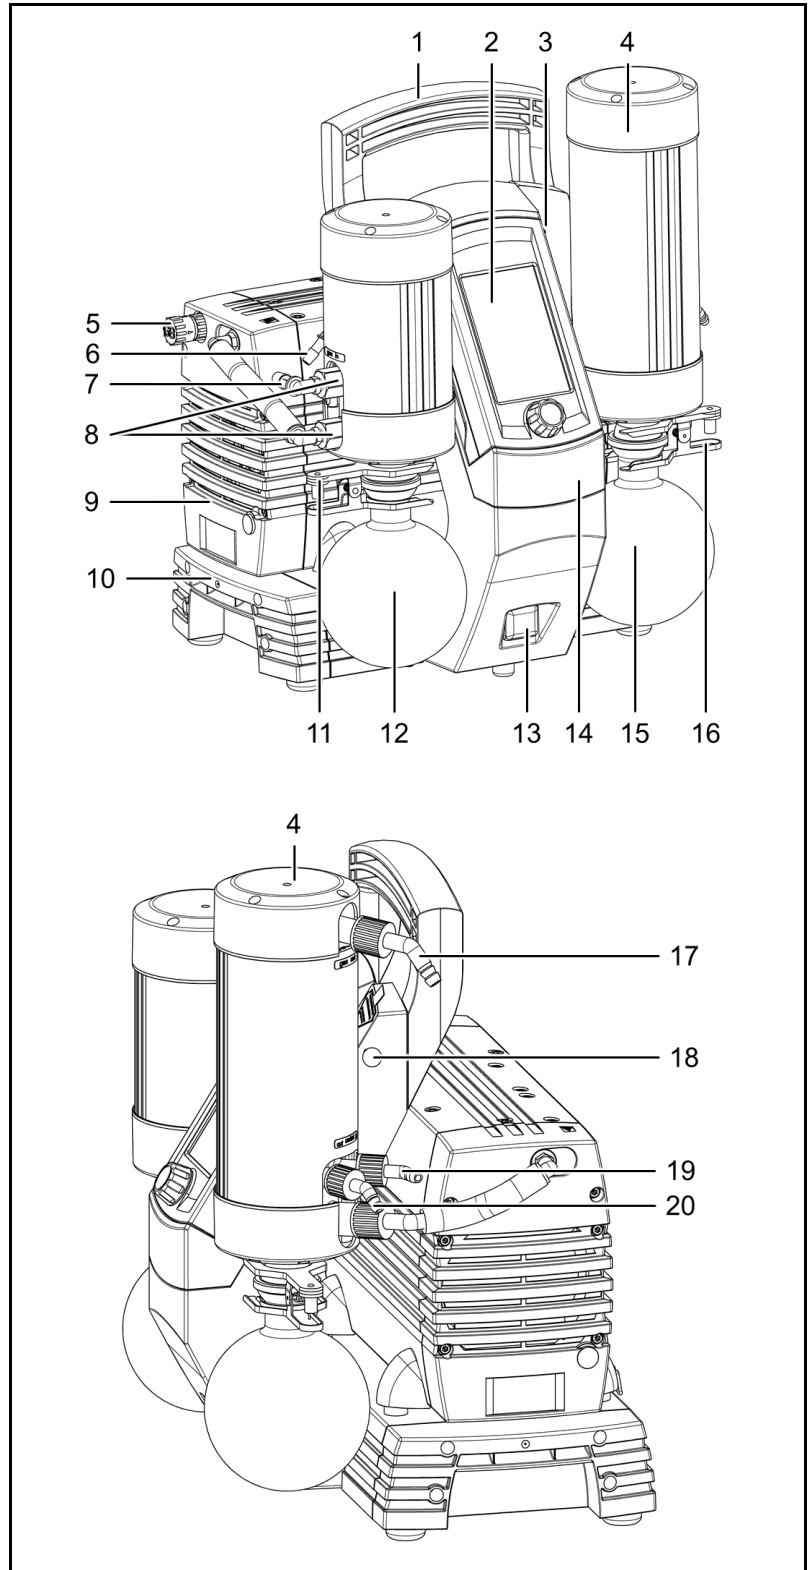

Fig. 2: Vacuum pump system SC 920G
Ventilating the vacuum pump system	When ventilating the vacuum pump system with air or inert gas, be sure to prevent formation of reactive or explosive media. The maximum permissible operating pressure at the ventilation connection (Fig 2/5, page 11) is 0.1 bar g.
Collection flask (Fig. 2/12) collects on the suction side of the pump particles and drops that were, contrary to the requirements of the pump, suctioned from the vacuum chamber. The collection flask is coated (implosion protection) and fastened to the vacuum pump system via a flask clip.
Solvents deposited in the high-performance condenser are collected in the coated (for explosion protection) collection flask (Fig. 2/15). A flask clip secures the glass flask to the condenser flange. A recirculating cooler or continuously flowing cold water cools the high-performance condenser to the condensation temperature.
Gas ballast The gas ballast switch (Fig. 2/5) can be used to open and close the gas ballast valve on the vacuum pump system's pump (see Chapter 5.5).
1. Loosen the set screw (Fig. 2/3, p. 11).
2. Pull out the pin of the transport fastener (Fig. 2/18, p. 11) as far as the limit stop.
1. Connect the vacuum chamber to the gas inlet's hose connector (Fig. 2/7, page 11, for hose inside diameter of 10 mm). For this, vacuum tubing must be used.